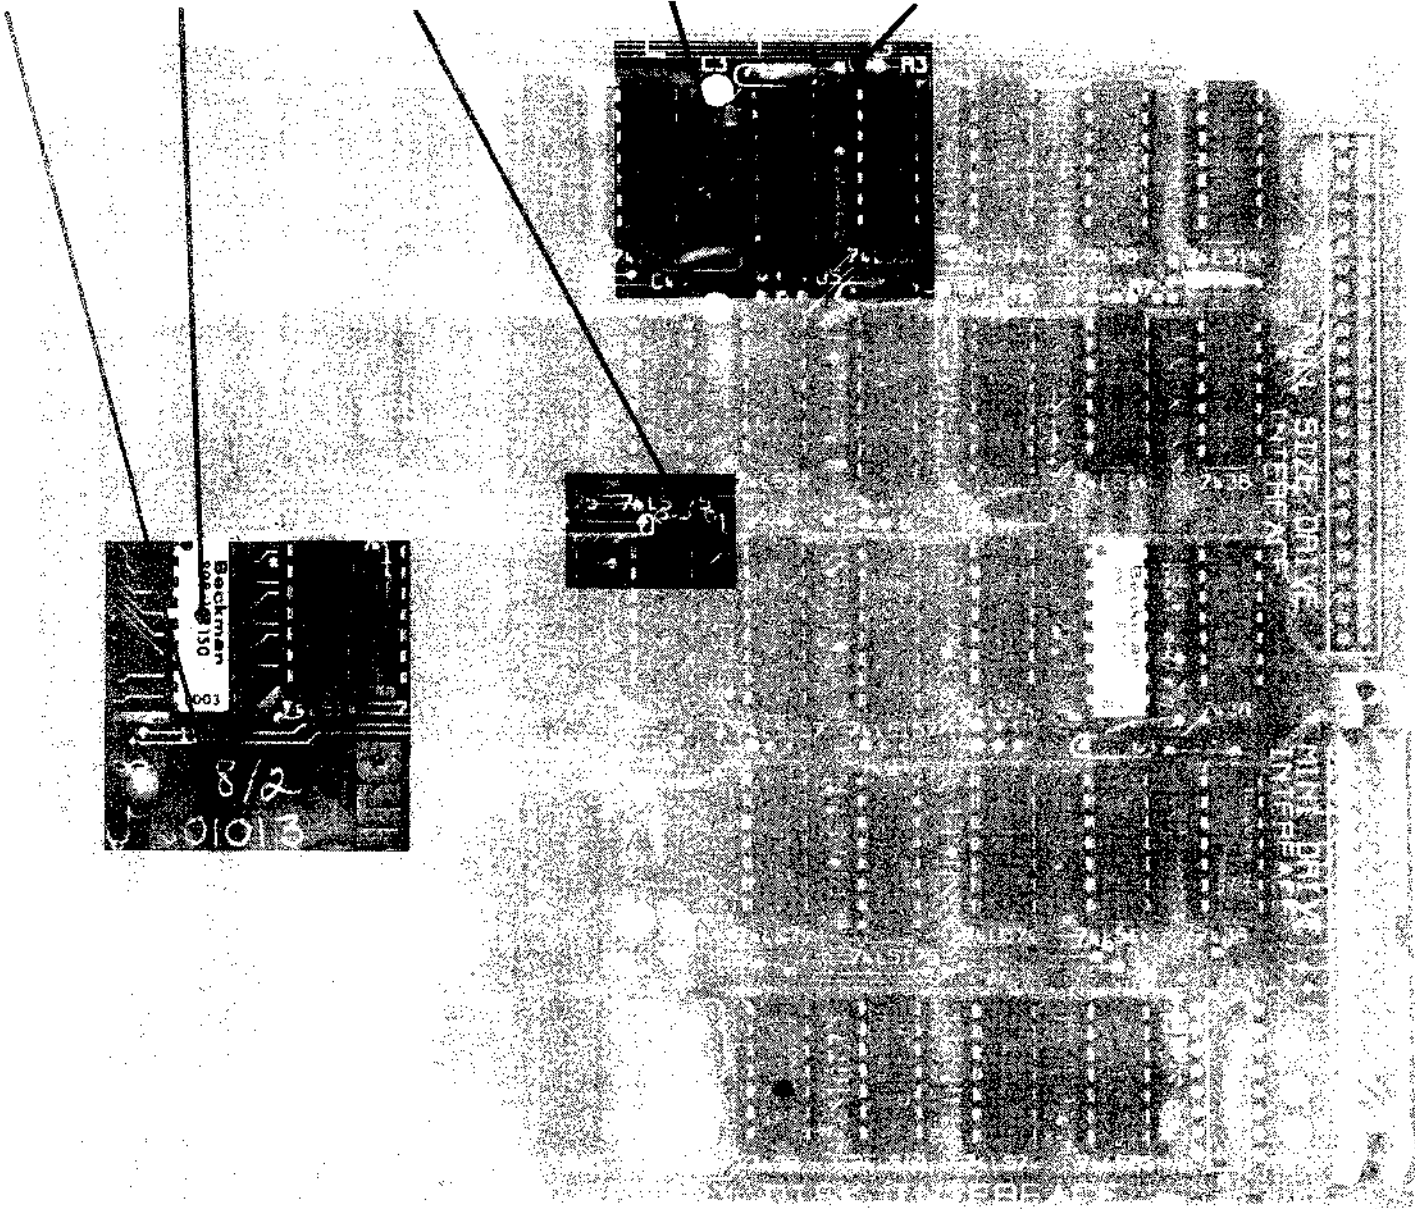

Figure 2-2 — 5200 Auxiliary Disk Controller — 800703
- (1) The Auxiliary Disk Controller, 800703, is installed in the 5200 Computer Unit. Refer to Figure 2-2.